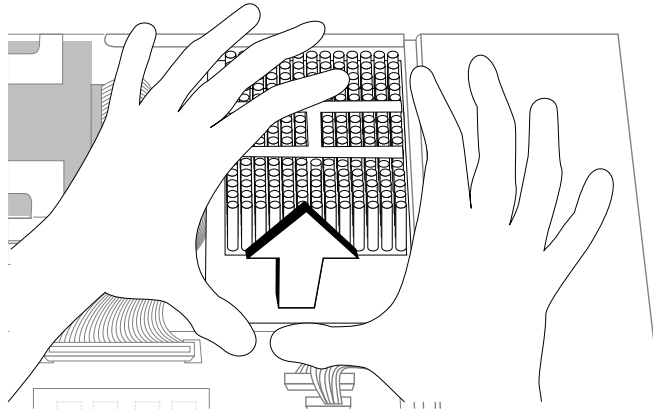

Figure 8-22 Disconnecting the CPU Module
7. Lift the board by bracing your hands against the power supply and the chassis and pushing the board up with your thumbs, as shown in Figure 8-22.